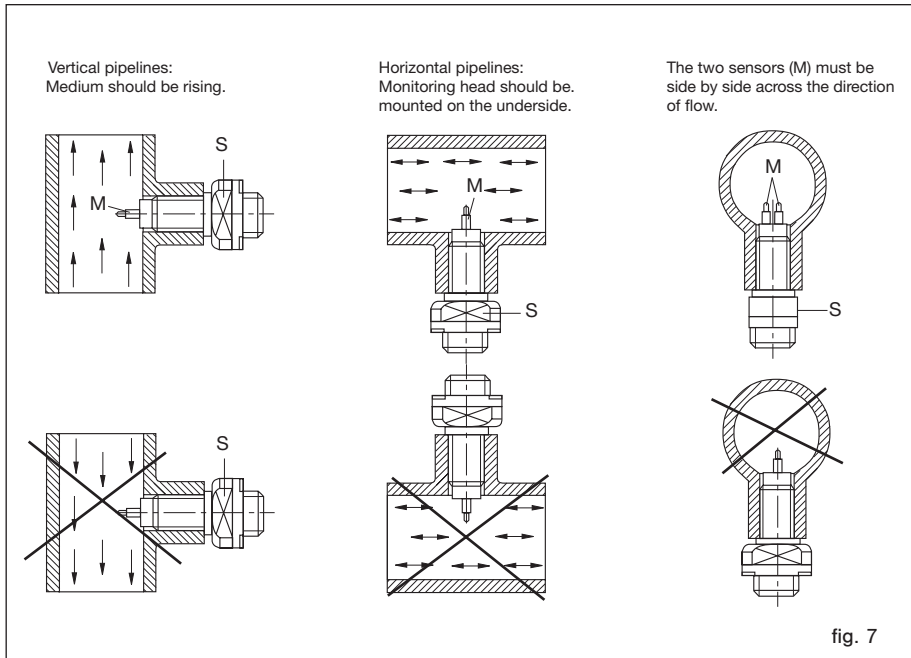

fig. 7
⚠ The two sensors (M) (see fig. 7) should be aligned side by side directly across the direction of flow. The sensors are correctly positioned when the wrench flats are aligned parallel with the pipeline.